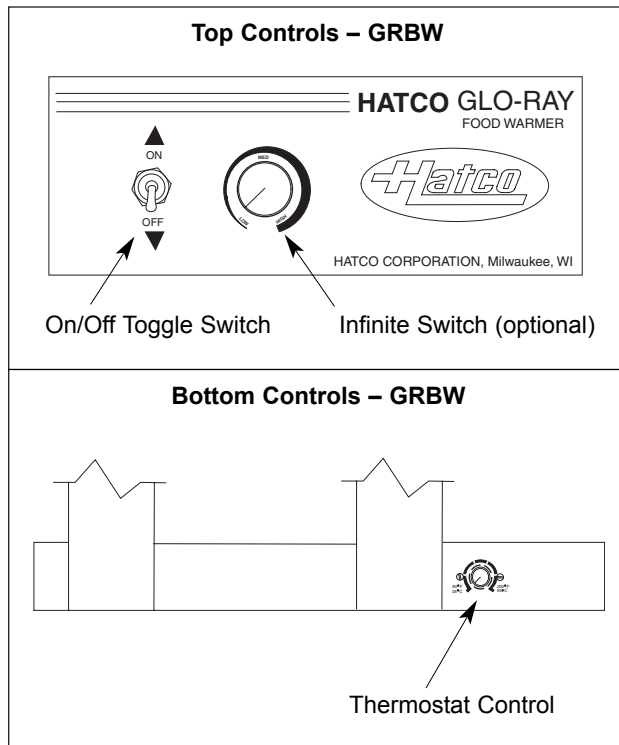

Figure 5. Operating Controls.
1. Turn the top toggle switch to the ON position. See Figure 5. The infrared heat and incandescent lights are controlled by the toggle switch. This switch must be in the ON position when in use.